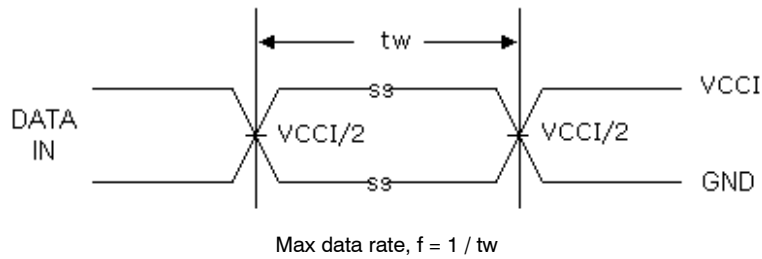

Figure 10. Maximum Data Rate
16. Maximum data rate is specified in megabits per second with all outputs switching, (see Figure 10). It is equivalent to two times the F-toggle frequency, specified in megahertz. For example, 100 Mbps is equivalent to 50 MHz.